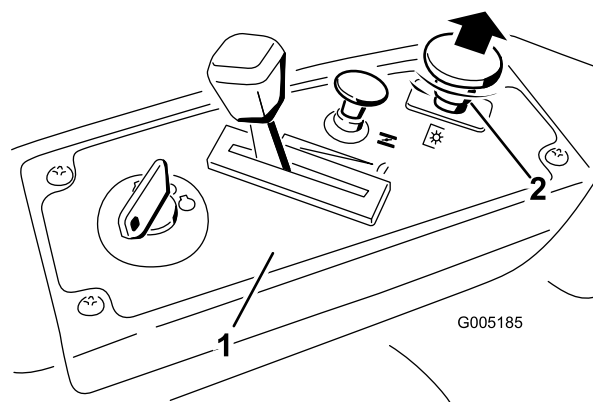

Figure 11
3. Pull out on the blade control switch to On to engage the blades (Figure 11).